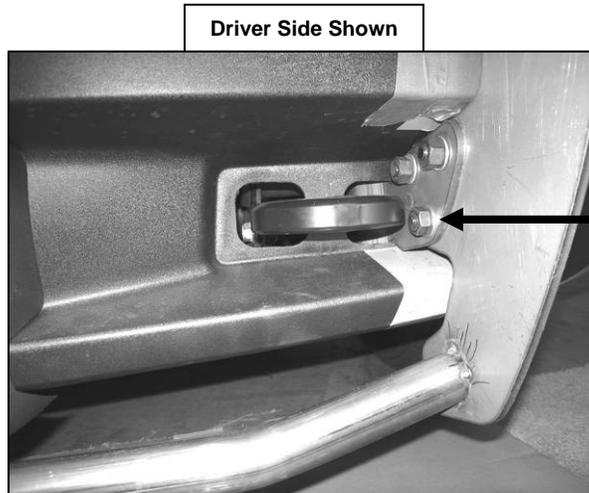

Figure 5
- Attach Grille Guard to Mounting Bracket using the included (6) 12mm x 30mm Hex Head Bolts, (6) 12mm Nylock Nuts, and (12) 12mm Flat Washers (Fig 5). Do not tighten at this time.